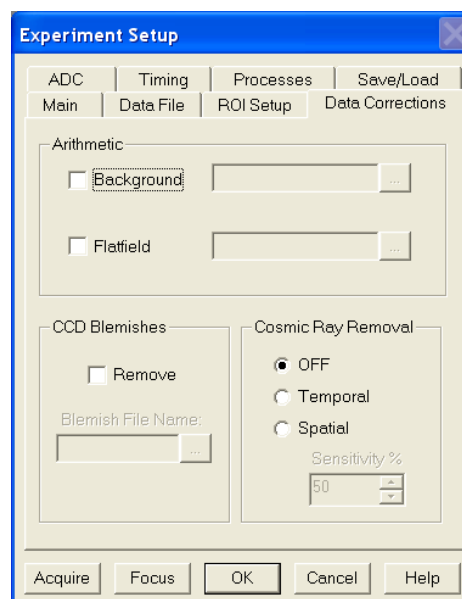

Figure 41. Data Corrections tab
- On the **Data Corrections** tab (Figure 41) all of the correction functions should be OFF.